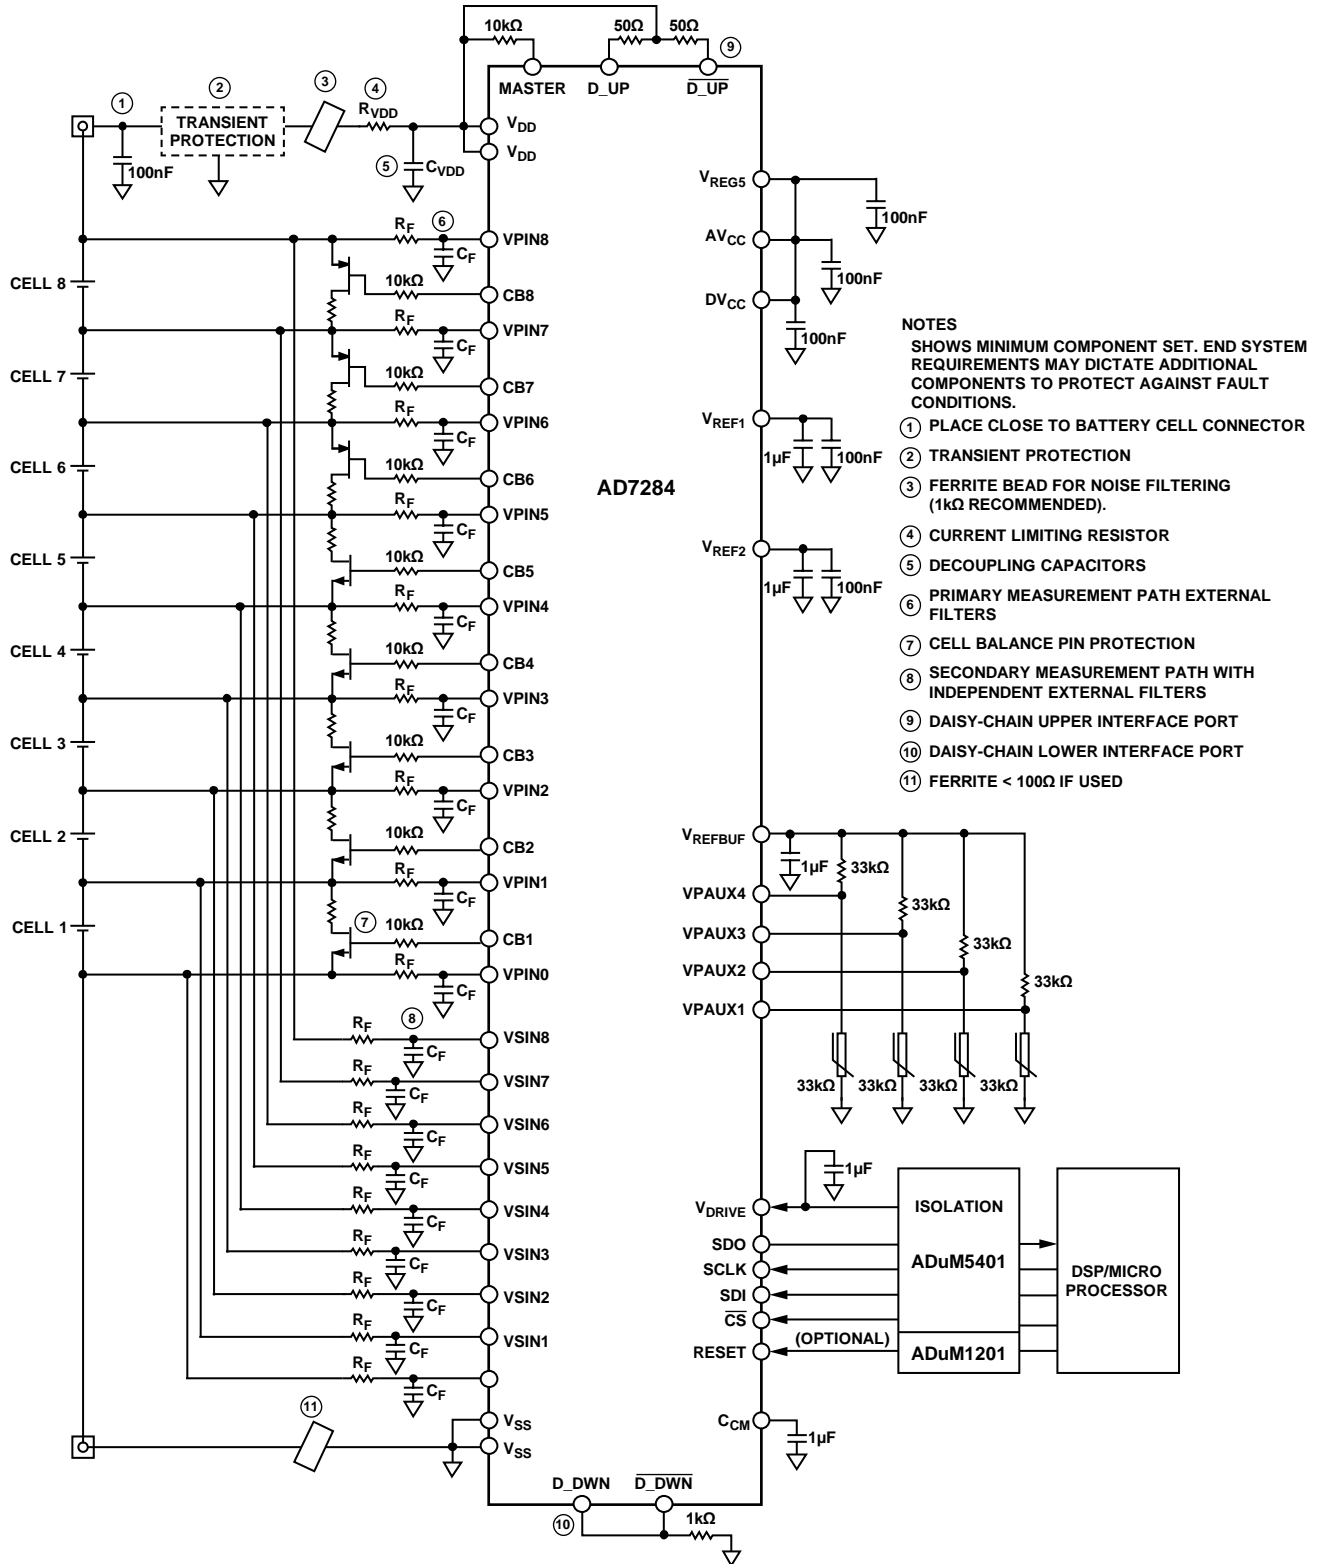
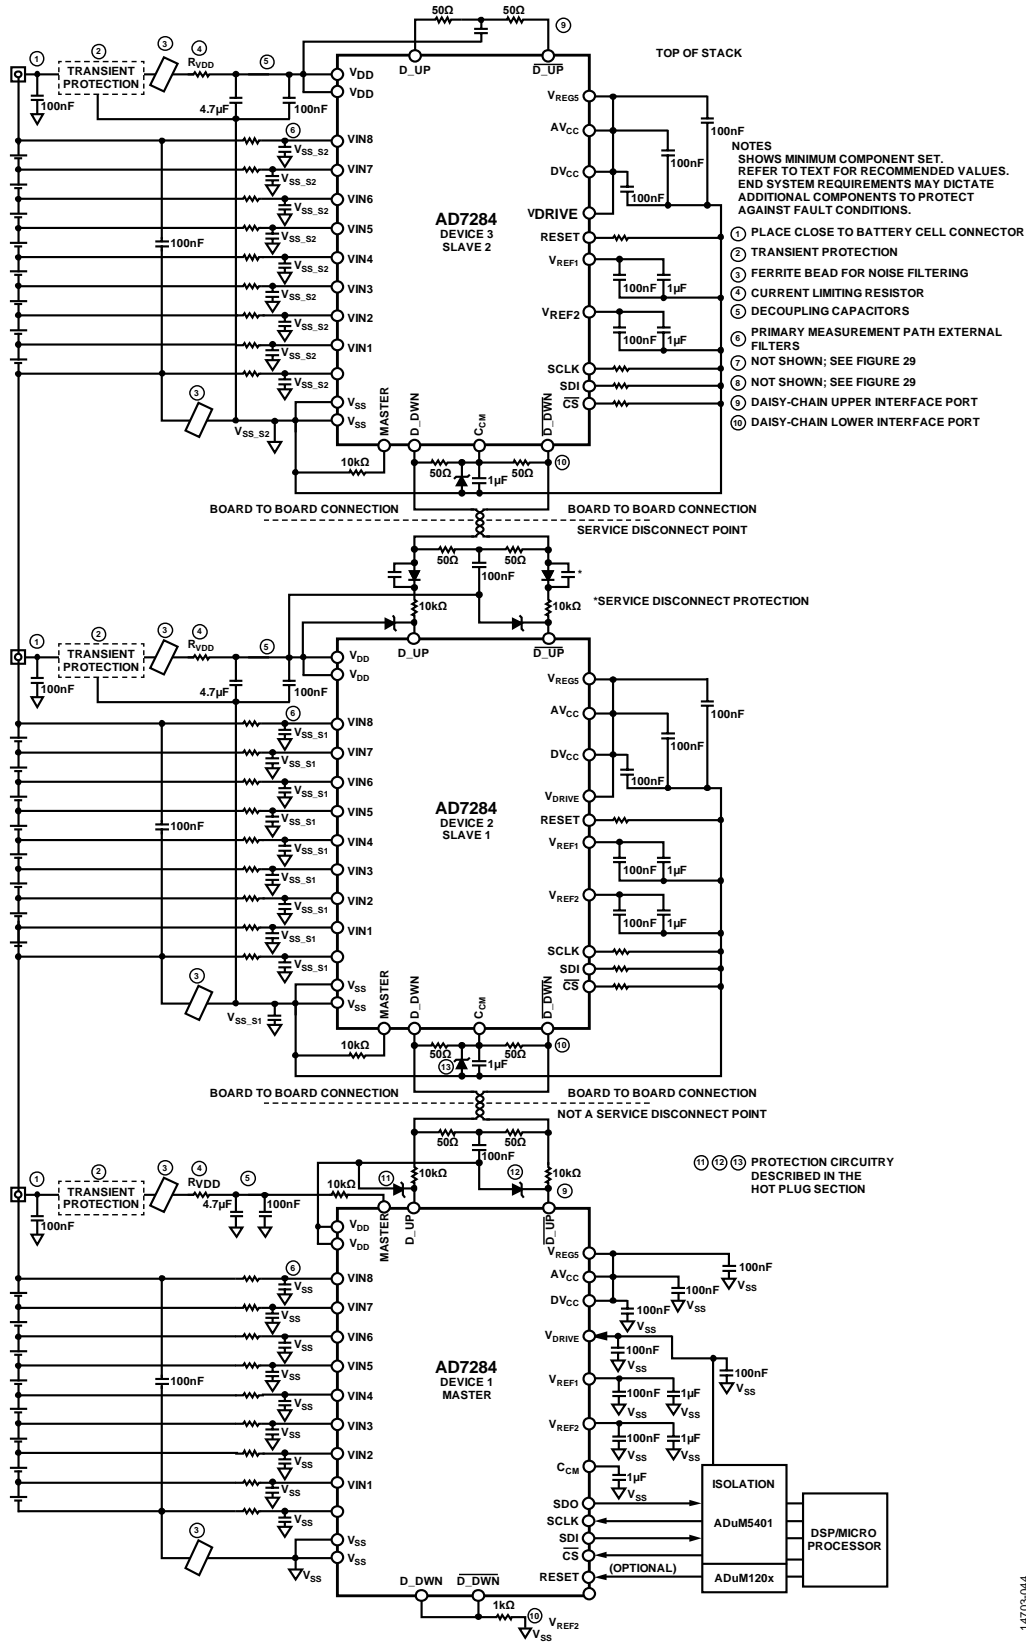

Figure 41. AD7284 Master Configuration Diagram for Eight Battery Cells
Figure 42. AD7284 Daisy-Chain Configuration with Three Devices, Where All Devices Are on Separate Boards
Figure 41 shows an example of components for a master device, monitoring eight cells using two independent filters (on the primary and secondary path), and monitoring temperature on four thermistors.
The following notes refer to the notes detailed in Figure 41 and Figure 42:
3. Ferrite bead to filter supply noise. Typically, 1 k Ω ferrite (100 MHz) is recommended in the V_{DD} path. If a ferrite is required in the V_{SS} line, it is recommended to use a value <100 Ω (100 MHz). This note applies to the master or slave configurations. See Note 11 in Figure 41 and see Note 3 in Figure 42.
Note that the 1 μ F capacitor on V_{DRIVE} shown in Figure 41 is an ADuM5401 requirement. It is recommended to add 100 nF decoupling on the V_{DRIVE} pin.
Li-Ion battery applications require a significant number of individual cells to provide the required output voltage. Figure 42 shows the recommended configuration of a chain of AD7284 devices monitoring a larger battery stack. The daisy-chain interface of the AD7284 allows each AD7284 to communicate with the AD7284 immediately above and below it. The daisy-chain interface allows the AD7284 devices to be electrically connected to the battery management device without the need for individual isolation devices between each AD7284. One AD7284 acts as the master device, interfacing through the standard SPI interface to the host processor and to the chain of connected slave devices.
Figure 42 shows how a chain of three devices can be configured to operate on individual boards, if required; the same configuration can be used if all devices are mounted on the same board.